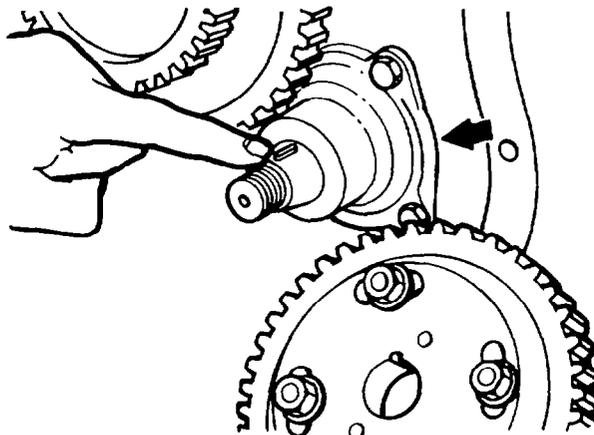

Fig. 68 — Fitting Pump Drive Shaft Housing
- c. Fit the injection pump drive shaft housing to the block; install the retaining bolts and torque to 48 Nm (35 lb.ft) (see fig. 68).